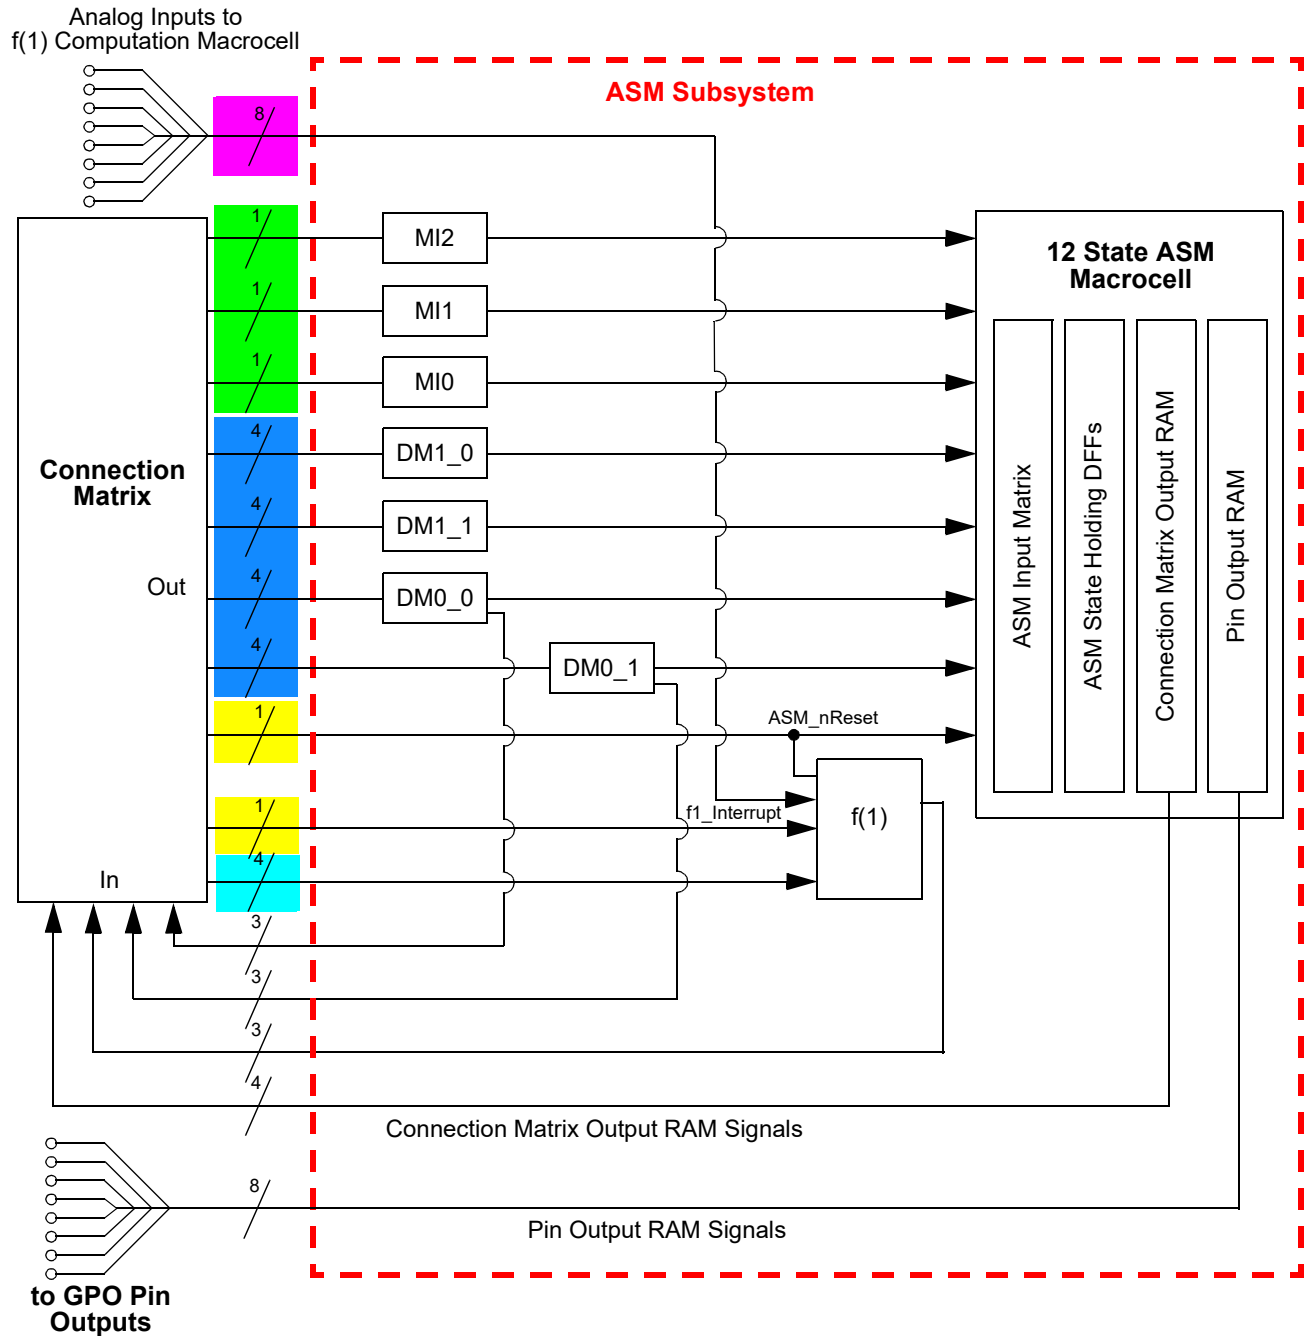
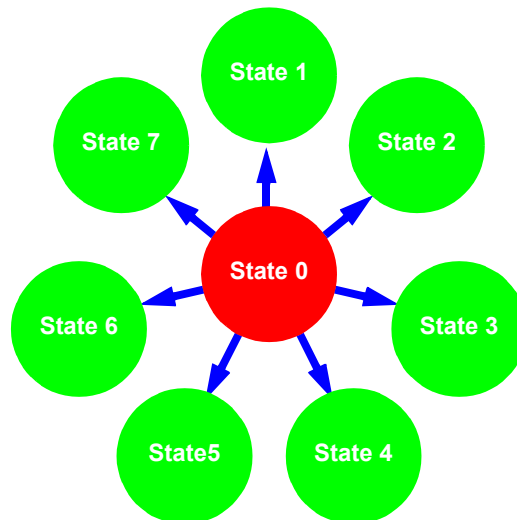
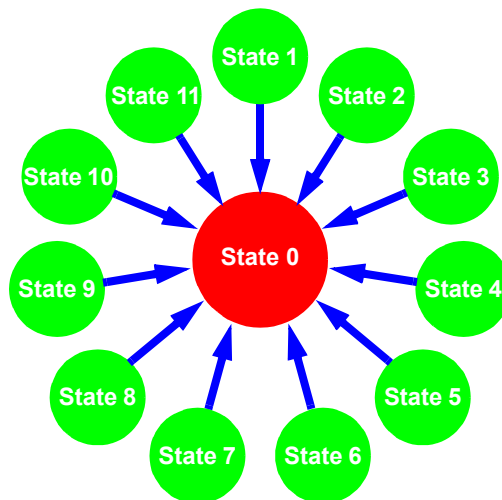

Figure 78: ASM Subsystem Input Signals
Figure 79: Maximum 7 State Transitions out of a Given State
Figure 80: Maximum 11 State Transitions into Given State
The ASM Subsystem has a total of 25 digital input signal lines, as shown in Figure 78, which all come from the Connection Matrix outputs. Of these 25 input signals, 3 are user selectable inputs going directly from the Connection Matrix to the three Matrix Interface (MI) macrocells. There are a total of 16 input signals that go to the DMx macrocell, four per macrocell. There is 1 ASM\_nReset input that is for driving a state transition in both the ASM macrocell and the f(1) Computation Macrocell to an Initial/Reset state. There are 4 digital input signals coming from the Connection Matrix to the f(1) Computation Macrocell. There is also 1 dedicated Interrupt input to the f(1) Computation Macrocell that will halt any active operations and transfer control back to the ASM macrocell. Each of the 25 input signals are level sensitive.
There are a total of 16 digital input signals to the ASM Subsystem which are inputs directly to the DM macrocells. These 16 signals are shown in Figure 78, highlighted in blue. While there are 4 input signals coming from the Connection Matrix and going to each DMx\_x macrocell, there is only 1 output signal from each of these macrocells, which goes directly to the ASM macrocell. There are also 3 signal lines that come directly from the Connection Matrix and go to the three Matrix Interface (MI) macrocells which can drive state transitions. These signals are shown in Figure 78, highlighted in green. This sets an upper bound on the number of transitions that the user can select going **out of** a particular state to be 7, shown in Figure 79. There is no limitation on the number of unique transitions that can be supported going into a particular state, the user can select to have transitions going from a state to all other states, shown in Figure 80. Each of these input signals to the ASM macrocell is level sensitive, and active high. A high level input will trigger a state transition.
There are a total of 8 analog inputs coming from various pins which can be muxed into the positive input for the f(1) Analog Comparator inside the f(1) Computation Macrocell. These 8 signals are shown in Figure 78, highlighted in pink. The f(1) Analog Comparator can be re-programmed for analog input source and negative input reference settings. The user selections for both positive input signal and negative reference are included as part of the information stored in the f(1) Command Register Table. This allows the user to make different analog measurements that are state dependent in their analog sources and reference settings.
The ASM macrocell also has a ASM\_nReset input. This input to the ASM macrocell is level sensitive and active low. This signal is shown in Figure 78, highlighted in yellow. An active signal on this input will drive an immediate state transition to the user-defined Initial/Reset state. The user can choose which state within the ASM Editor inside GPAK Designer will be the reset state.
There is also 1 dedicated f1\_Interrupt input to the f(1) Computation Macrocell that will halt any active operations and transfer control back to the ASM macrocell. This signal is shown in Figure 78 also highlighted in yellow.